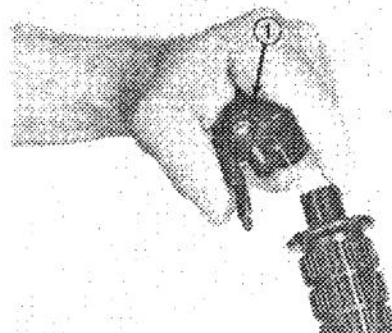

Figure 11
4. Hold the trigger down against the bracket, grasp the cable below the hole in the handle and lower the trigger down onto the handle while pulling the cable with the other hand to remove the slack (Fig. 11).